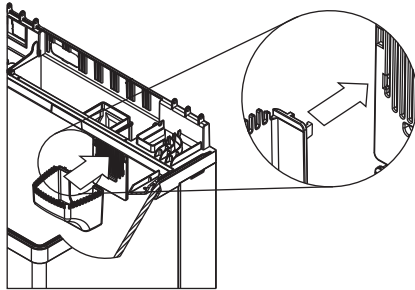

Figure 15: Attaching the integrated over-flow box
1. Attach the Over-flow box to the filter comb by inserting the teeth at the rear of the over-flow box into the slots located towards the bottom of the filter comb. (Fig. 15)